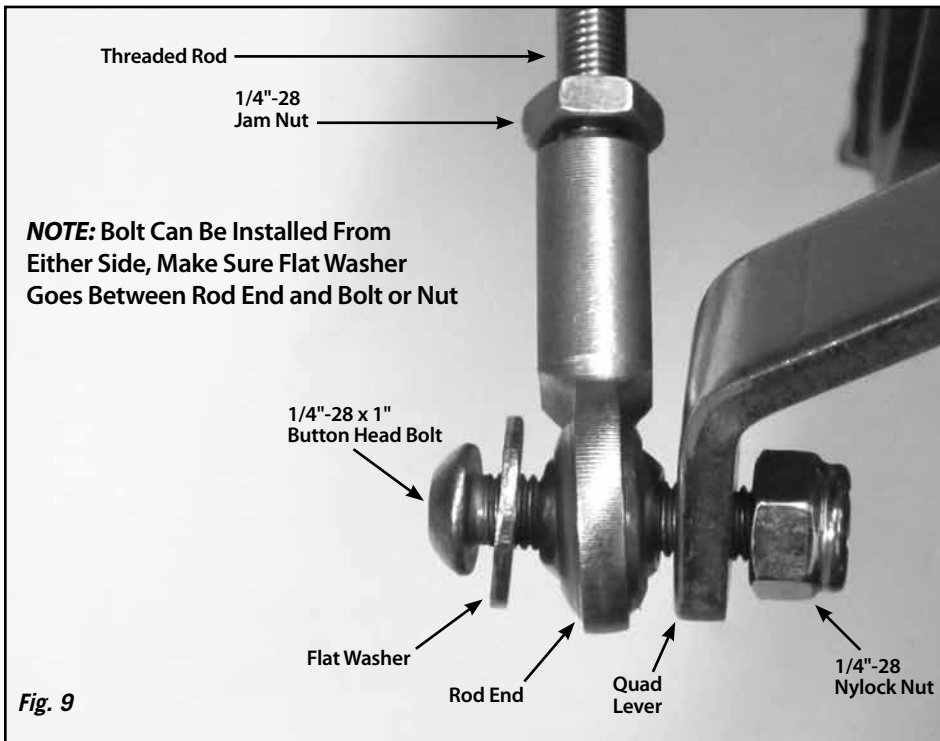

Fig. 9
Step 13: Install a rod end onto each end of the threaded rod. Attach the threaded rod assembly to the **inside** of the trans gear lever and to the **outside** of the quad lever using the 1/4"-28 x 1" button head bolts, flat washers, and nylock nuts as shown in **Fig. 9** and **Fig. 10**. The button head bolts can be installed from either direction, but make sure the flat washer is installed between the rod end and the bolt head or nut.